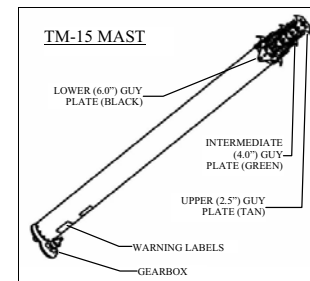
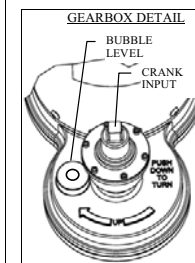

Figure 12
Figure 13
20. Using the bubble level, make final adjustments to the guy lines to set the mast vertical. The bubble must be completely inside the inner circle on the indicator before the mast is extended. See Figs. 12 and 13.
22. Place the hand crank onto the gearbox, push down approximately 1/4 inch (6 mm) to disengage the brake and crank clockwise to extend the mast. Maintain a constant downward pressure to keep the lock disengaged and use a steady, even cranking speed. In the event of a jam, stop and crank in the reverse direction approximately five turns, then retry. Cranking more slowly will help to clear a jam. See Fig. 12 and Fig. 13.
3. Place the hand crank onto the gearbox, push down approximately 1/4 inch (6 mm) to disengage the lock, and crank counter-clockwise to retract the mast. Maintain a constant downward pressure to keep the lock disengaged and use a steady, even cranking speed. In the event of a jam, stop and crank in the reverse direction approximately five turns, then retry. Cranking more slowly will help to clear a jam. (Ref. Fig. 13)
- (i) Verify that the bubble level is attached to the gearbox and is operational. (Ref. Fig. 13)